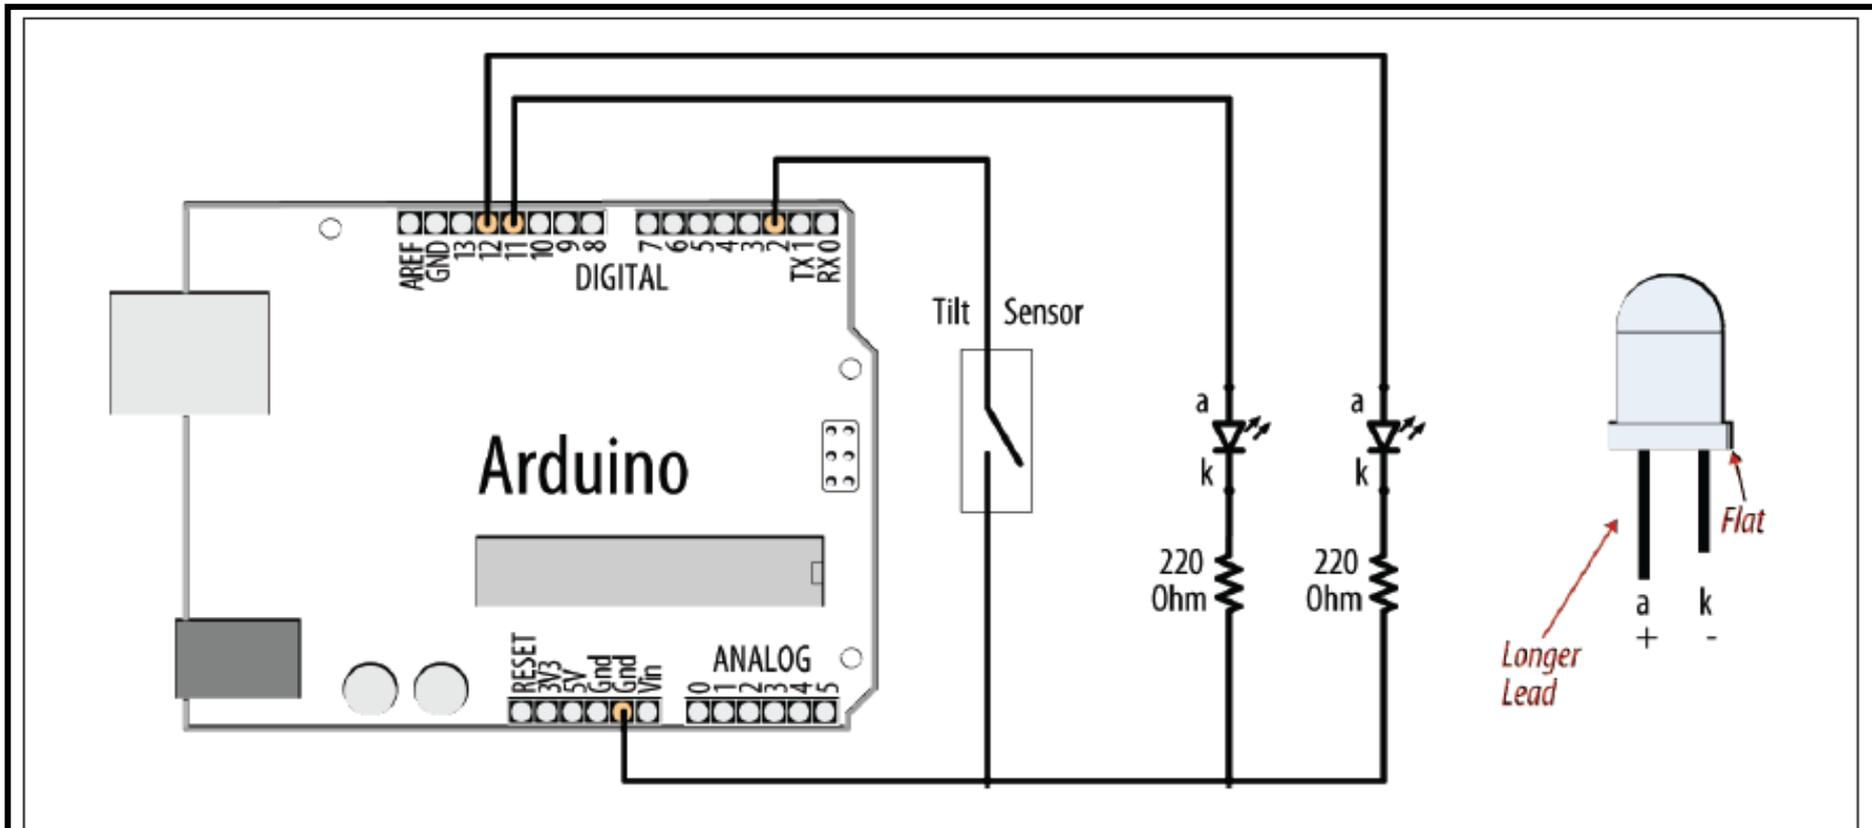

Figure 6-1. Tilt sensor and LEDs
- This sketch uses a switch that closes a circuit when tilted, called a *tilt sensor*. The switch recipes in Chapter 5 (Recipes 5.1 and 5.2) will work with a tilt sensor substituted for the switch. The sketch below (circuit shown in Figure 6-1) will switch on the LED attached to pin 11 when the tilt sensor is tilted one way, and the LED connected to pin 12 when it is tilted the other way: